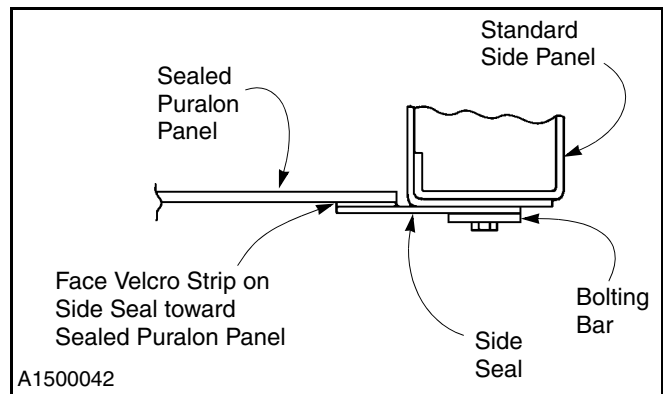

Figure 70
4. Install the new seal on the side panel using the bolting bar and saved hardware. Make sure to face the Velcro strip on the back of the side seal, toward the Puralon panel. (See Figure 70.)